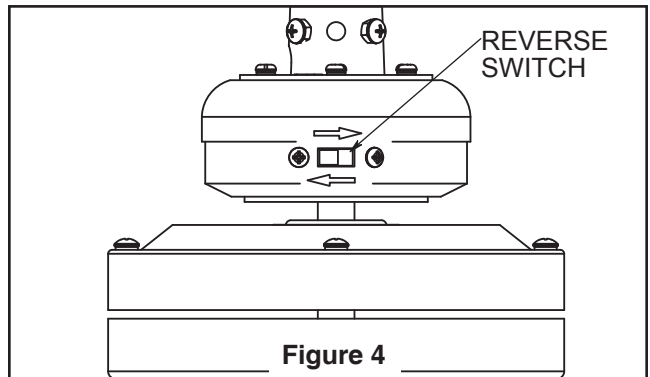

Figure 4
3. Slide the receiver unit into the open end of the hanger bracket (Figure 4).
4. Remove one of the three screws in the light plate assembly. Slightly loosen the remaining two screws. Assemble the socket plate assembly to the light plate assembly using the two key slots. Replace the third screw and securely tighten all three screws (Figure 4).
4. If airflow is desired in the opposite direction, turn the fan off and wait for the blades to stop turning. Then slide the reverse switch on top of motor assembly to the opposite position and turn fan on again (Figure 4).